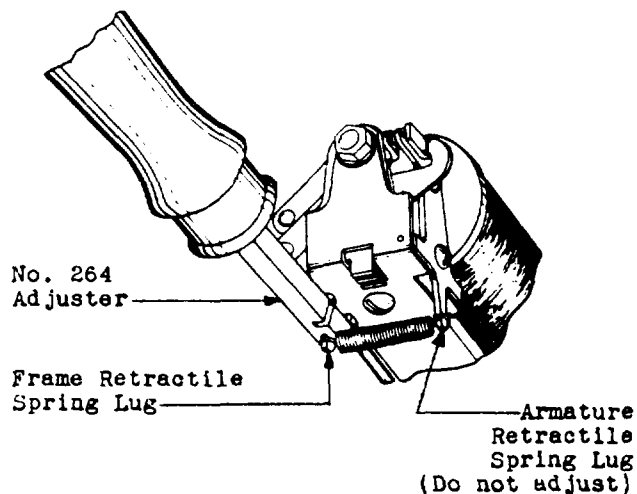

Fig. 8 - Adjusting for Electrical Requirements
(1) Operate and Hold: If the relay fails to meet its operate or hold requirement it is probably due to the tension of the retractile spring being too great. Reduce the tension of the retractile spring by adjusting the frame retractile spring lug to the right using the No. 264 adjuster as shown in Fig. 8. Do not adjust the armature retractile spring lug as this may result in the bending of the bearing pin.
(2) Non-operate and Release: If the relay fails to meet its non-operate or release requirement it is probably due to the tension of the retractile spring being too light. Increase the tension of the retractile spring by adjusting the frame retractile spring lug to the left using the No. 264 adjuster as shown in Fig. 8. Do not adjust the armature retractile spring lug.
(3) Do not bend the frame retractile spring lug to an angle greater than 45° either way from the vertical. If the relay cannot be made to meet its electrical requirements by adjusting the lug within these limits, the fault may be due to a defective retractile spring. In this case replace the retractile spring. If a new spring is put on the relay, see that it is the proper one, as piece part numbers of the springs vary with the relay code.